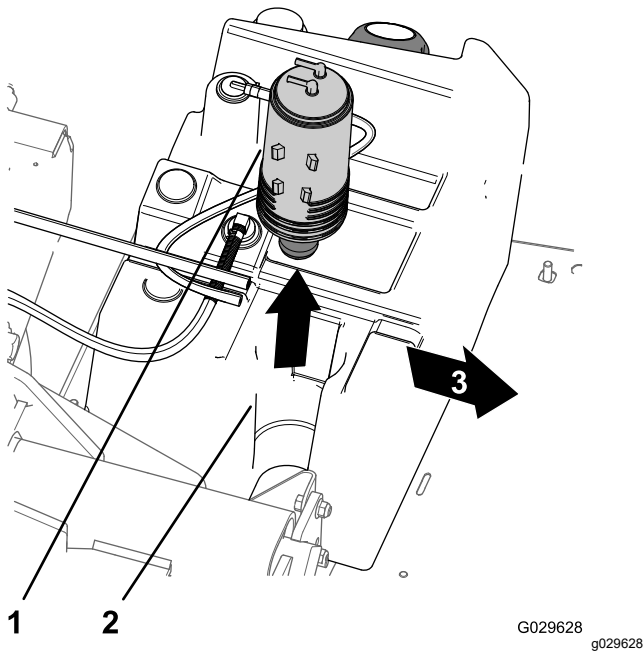

Figure 50
- Lift the carbon canister from the carbon-canister mount in the fuel tank (Figure 50).
7. Insert the new carbon canister into the carbon-canister mount of the fuel tank with the purge and fuel tank fittings aligned rearward (Figure 50).